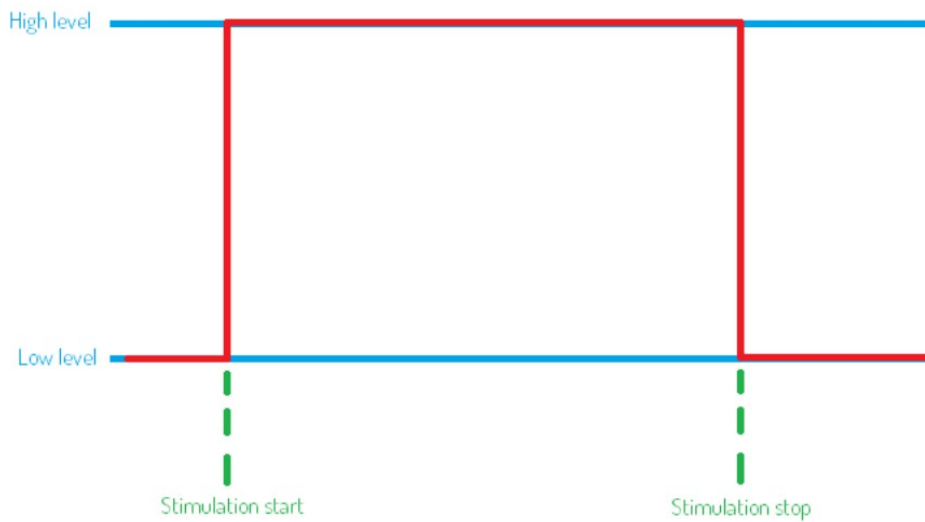

Figure 86. Trigger out setup for level high.
- Level High (LH) – Only used for signalling the following events: Start or Stop of the stimulation. When stimulation is being administered the signal level is high. When there is no stimulation the signal level is low (Figure 86)